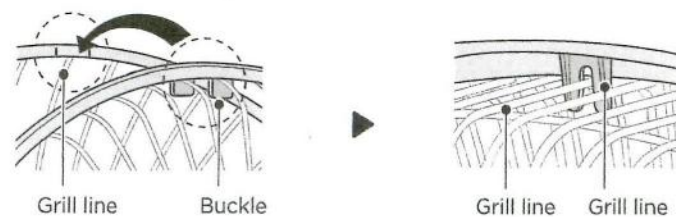

Fig.8
- 4 Align the front grill buckle with the top line of the rear grill from top to bottom, after aligning, look at the schematic from the back.(Fig. 8)